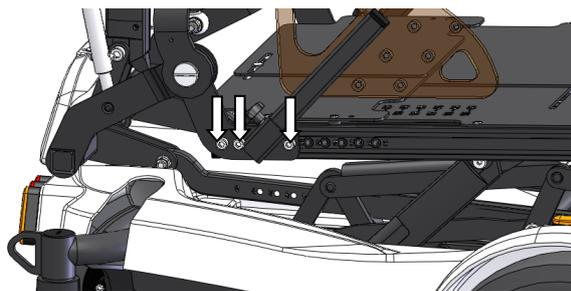

Figure 10 : seat septh adjustment sup.
- Remove the three screws from the upper seat pivot (see Figure 10) *on both sides of the chair*